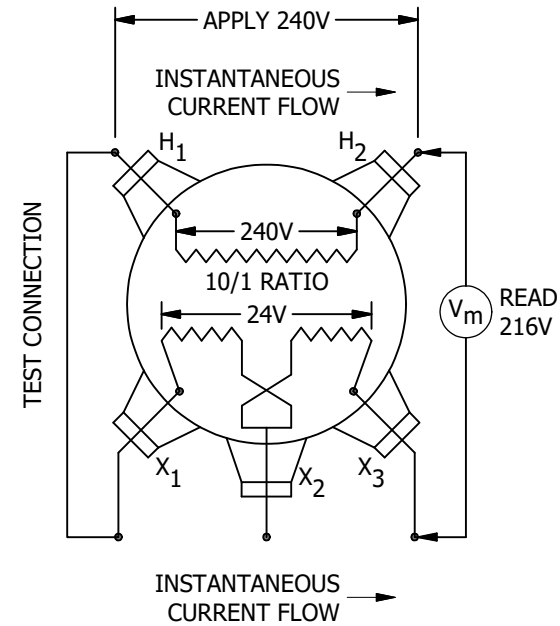

FIGURE 2
- IV. THE POLARITY IS SUBTRACTIVE IF THE VOLTAGE ACROSS THE OTHER TWO LEADS OF THE WINDINGS IN QUESTION IS LESS THAN THAT OF THE HIGH-VOLTAGE WINDING ALONE (FIGURE 2).